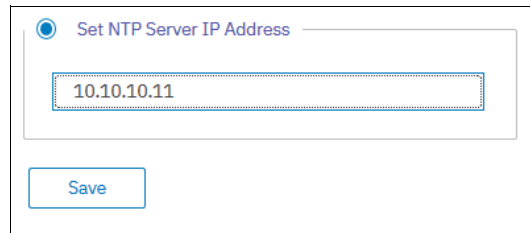

Figure 4-89 Set NTP Server IP Address window
- If you are using an NTP server, select **Set NTP Server IP Address**, and then enter the IP address of the NTP server, as shown in Figure 4-89.